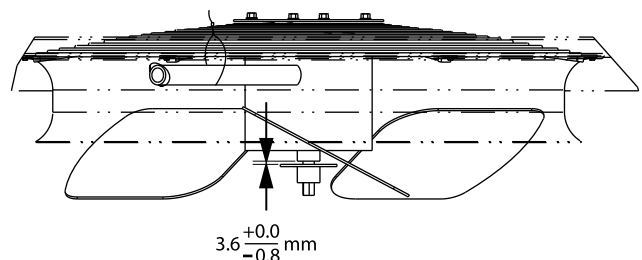

Fig. 31 — Condenser Fan Adjustment
4. Adjust the fan height as shown in Fig. 31.